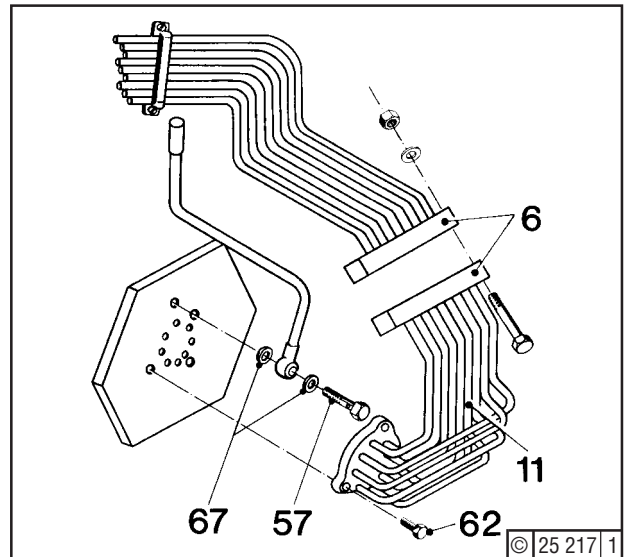
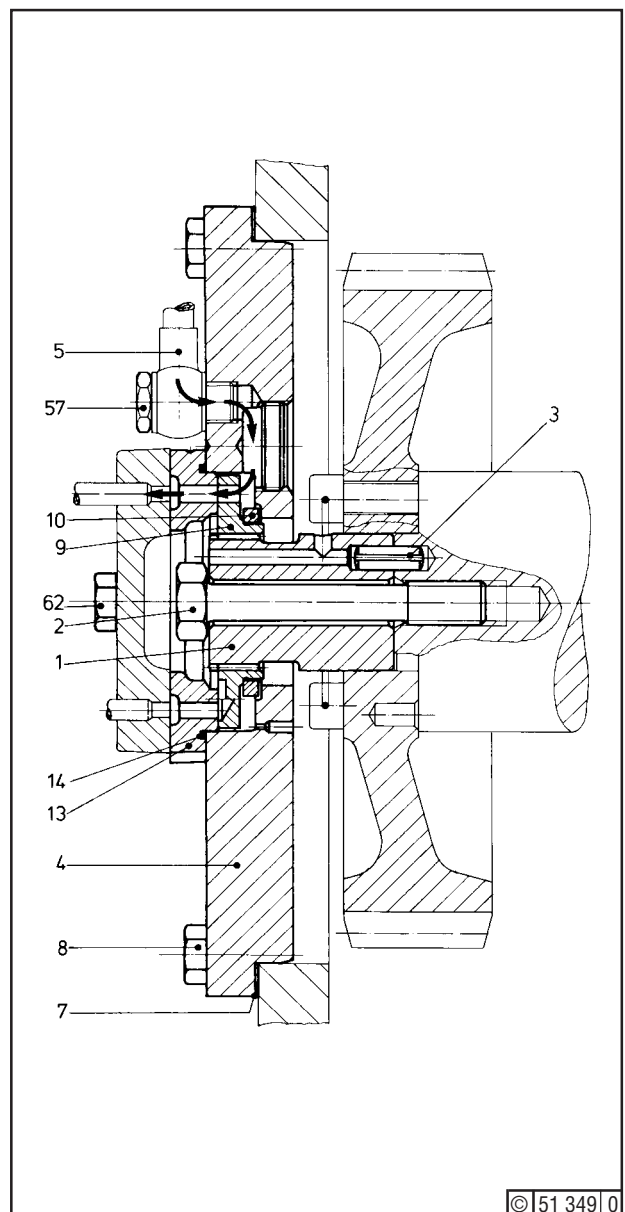
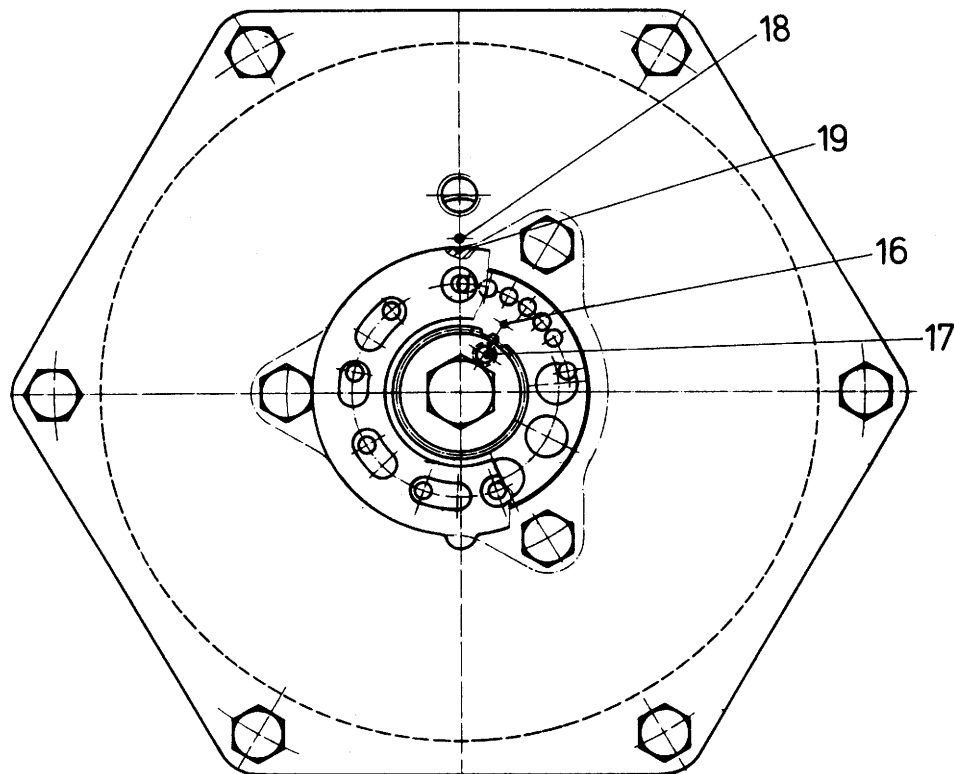

Fig. 1
Fig. 2
Fig. 3
The control disc (9) - Fig. 2 - contacts the distributor ring (13) only during the starting procedure. Ring (10) seals off the air passage to the crankcase. At the end of the starting procedure, control disc (9) runs free.
Undo coupling (6) - Fig. 1 -. Unscrew hex. bolts (62) and take off nest of tubes (11). Pull off distributor ring (13) - Fig. 2 - and withdraw control disc (9) along with ring (10).
Install control disc (9) along with ring (10) so that the punch mark (16) coincides with the hole (17) in shaft (1) - see Fig. 3 -.
Check control disc (9) and ring (10) for easy movement. Check O-seal (14) in distributor ring (13), renewing if necessary. Place distributor ring (13) in position so that punch mark (18) on cover (4) coincides with notch (19) in distributor ring (13) - see Fig. 3 -. Secure nest of tubes (11) - Fig. 1 - by means of hex. bolts (62). Connect coupling (6).
Undo coupling (6). Unscrew hex. bolts (62) and take off nest of tubes (11). Pull off distributor ring (13) - Fig. 2 - and withdraw control disc (9) along with ring (10). Screw out banjo bolt (57) and remove pipe (5). Undo hex. bolts (8). Take off cover (4) along with gasket (7).
Install control disc (9) along with ring (10) so that the punch mark (16) on the control disc (9) coincides with the hole (17) in shaft (1). Fit distributor ring (13) with O-seal (14) so that punch mark (18) on cover 4 coincides with notch (19) in distributor ring (13). Position nest of tubes (1) and secure by hex. bolts (62) - Fig. 1 -. Connect coupling (6). Upon completion of the work, start engine several times with compressed air, checking for perfect function and air-tightness of the starting pilot air distributor.